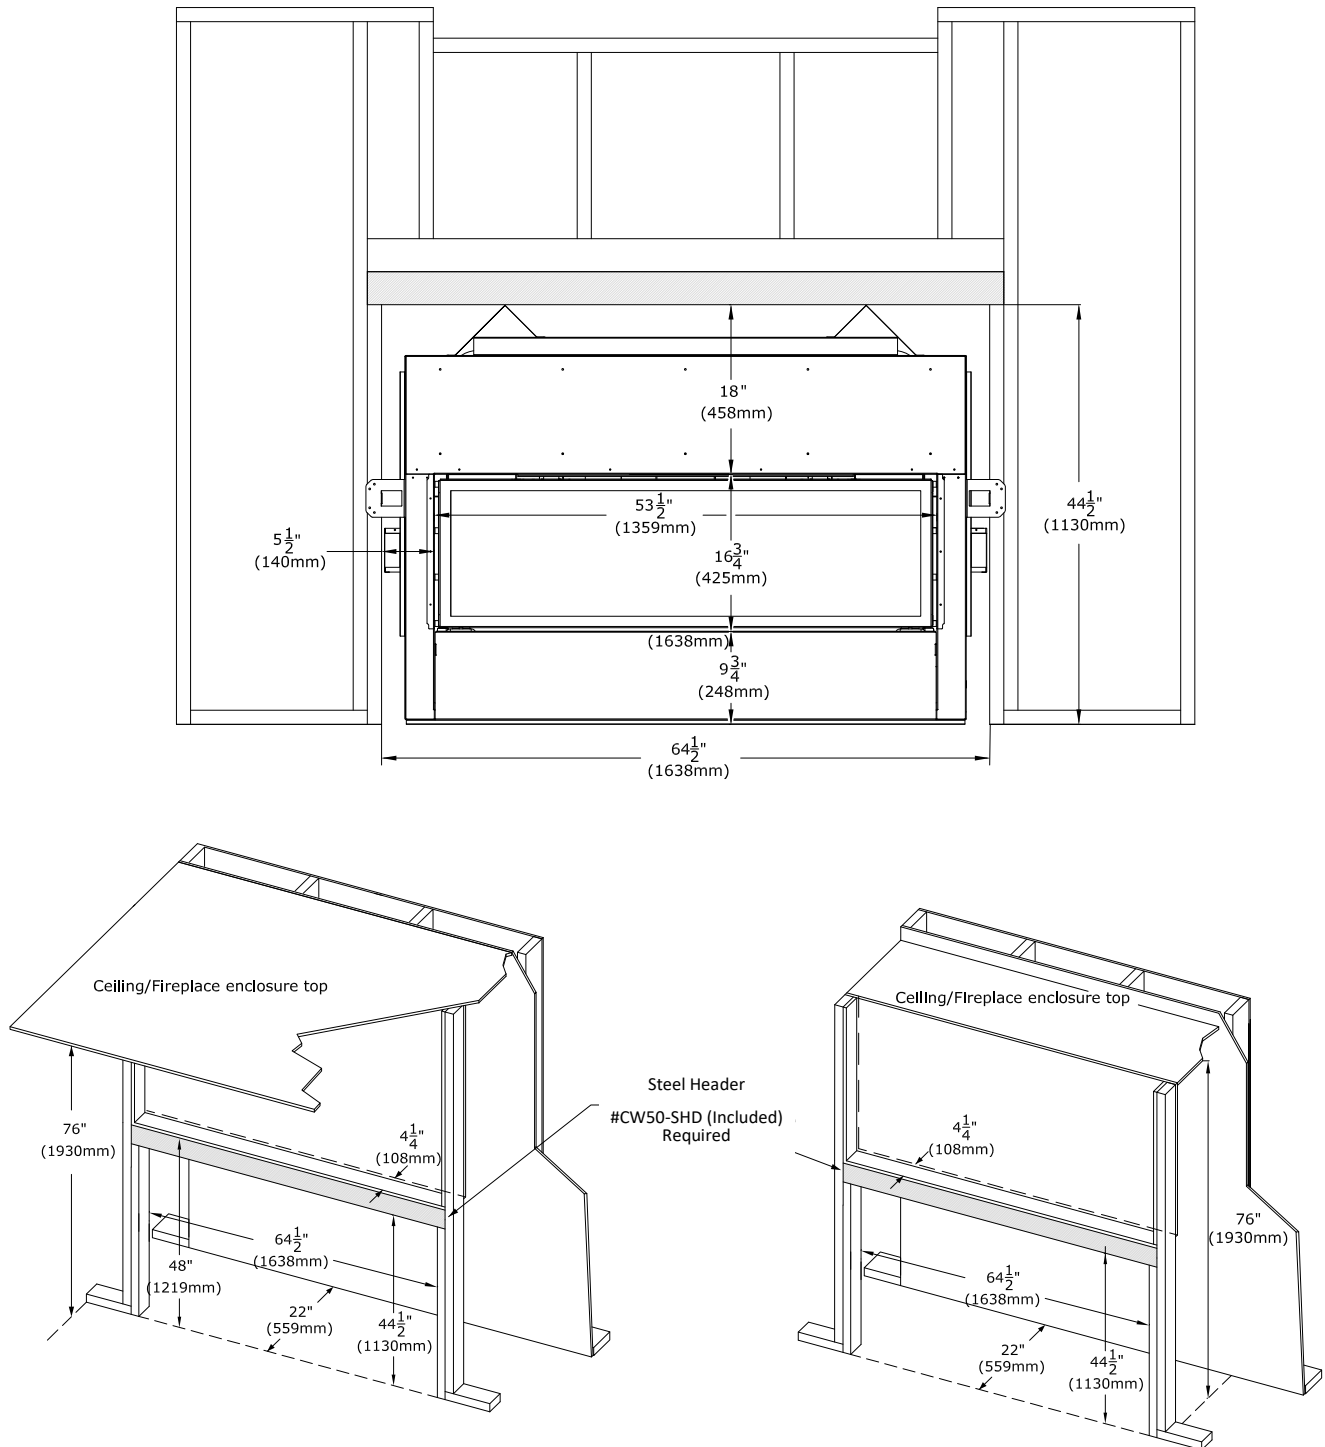

Figure 4.5 - Minimum Rough Framing - Applies to Vented Cavity Appliance Installations Only
Figure 4.5 shows the minimum rough-in dimensions for Vented Cavity Installations.
- The allowed TV recess of 4-1/4" (108mm) measures from the front of the nominal 2x4 framing to the backside of the finishing material of the pocket, as shown in Figure 4.5.